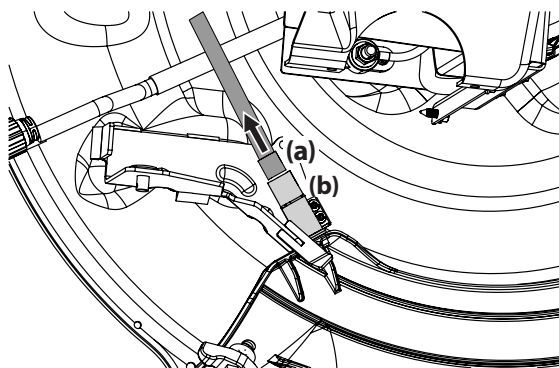

Figure 22
6. Unplug the wire connector (a) from the safety switch (b) at the rear of the chute opening. See Figure 22.
3. Plug the wire connector (a) into the safety switch (b) at the rear of the chute opening. See Figure 22.
NOTE: Be sure to securely reconnect the wire connector to the safety switch in Figure 22, your riding mower will not start or operate without the safety switch properly connected.